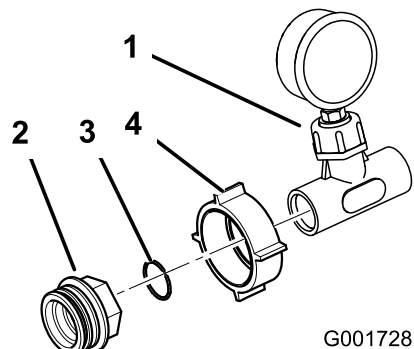

Figure 15
15. Install the large plastic nut over the pressure gauge and tee assembly. Install a plastic O-ring and adapter to the assembly as shown in Figure 15.